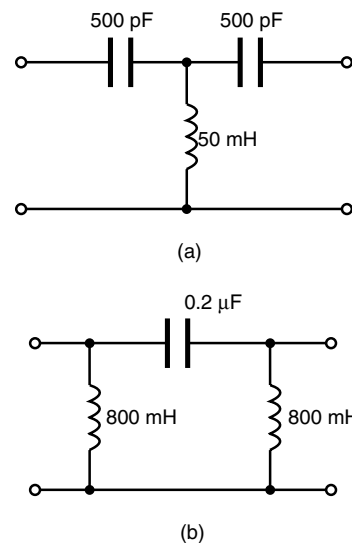

Figure 17.20
1. Determine the cut-off frequency and the nominal impedance of each of the high-pass filter sections shown in Figure 17.20.